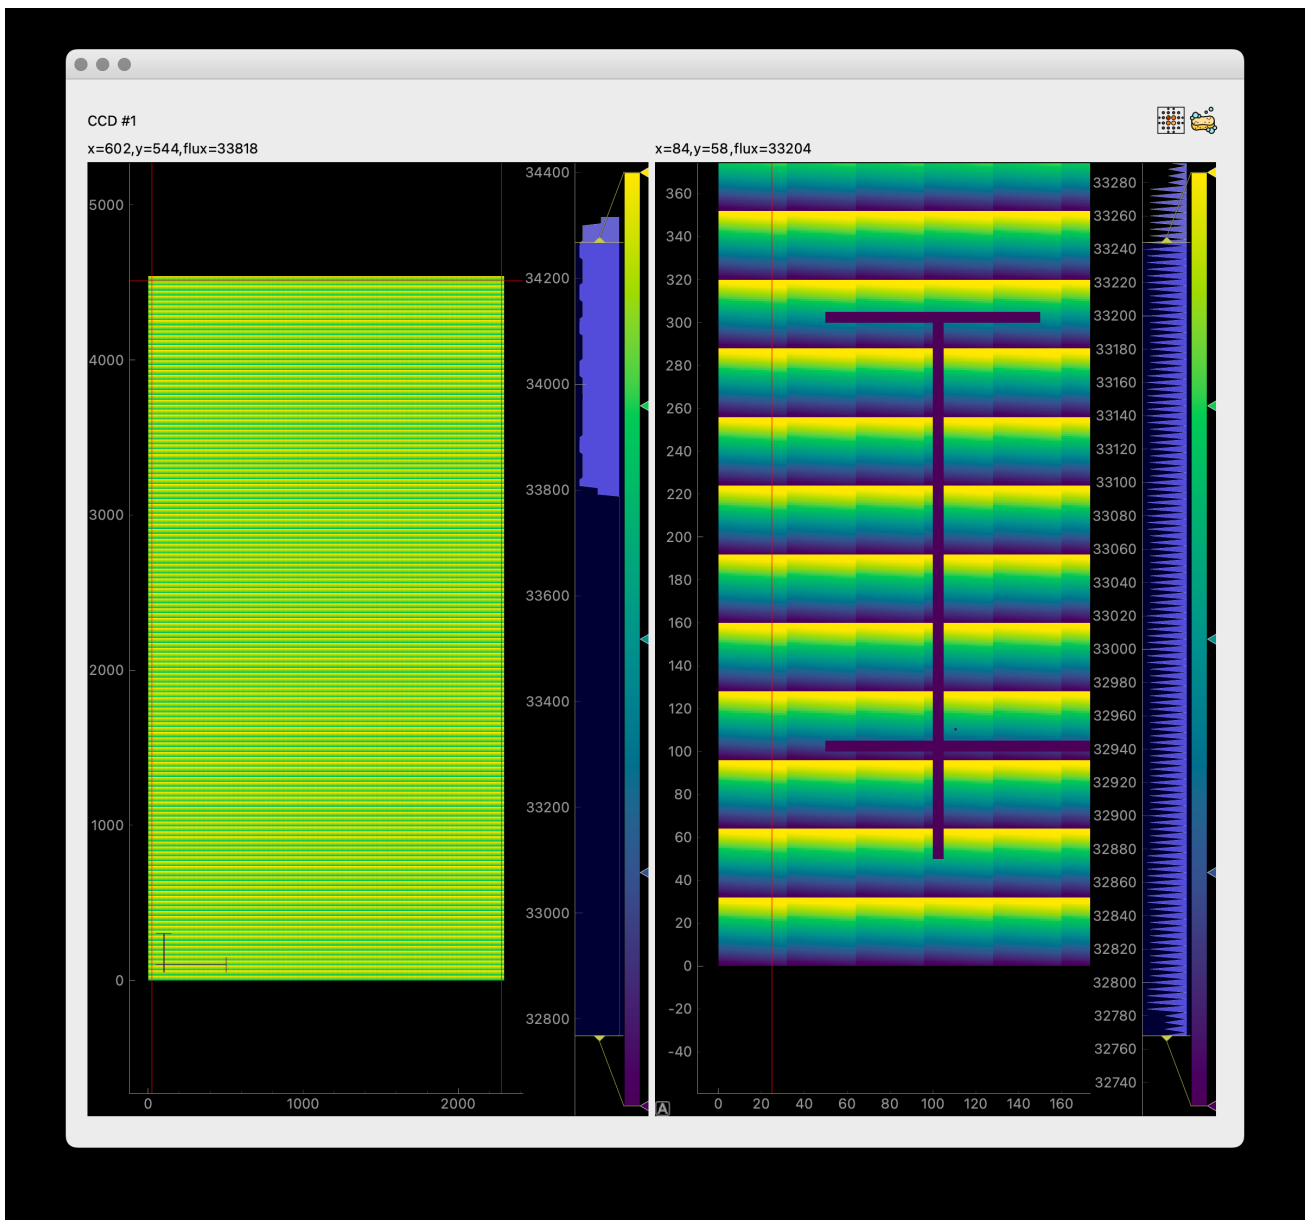

Figure 3. Zoomed window for CCD1 with simulated image data.
In Figure 3, we show the zoom window for CCD1. The image display is the same for the other CCDs and for the main DPU GUI window with all four CCDs. We see both sides of the CCD displayed next to each other in independent (pyqtgraph) widgets. Each side has the image data on the left and the histogram on the right. The histogram can be manipulated using the standard PyQtGraph interactions in order to change the color mapping or zoom and select the histogram range.
The two icons in the upper-right corner of the display allow you to (1) select and zoom to the brightest pixels in the display, and to (2) clear the image data. In the main window there is a third button per CCD that will open the image data in a separate zoom window like in Figure 3.